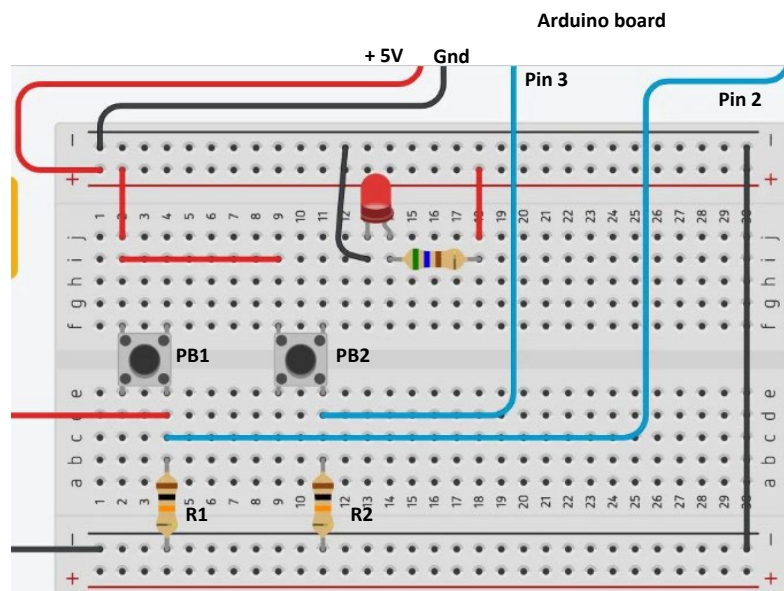

Fig. 6
6. Build the circuit as shown in Fig. 6.